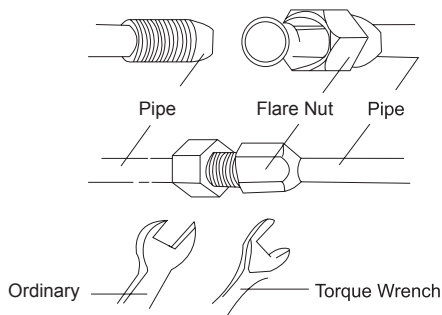

Fig. 4
- 1). Refer to Fig.4 for the moments of torque for tightening screws.
- 3). After that, tighten the screw by the torque wrench unit it clatters (as shown in Fig.4).